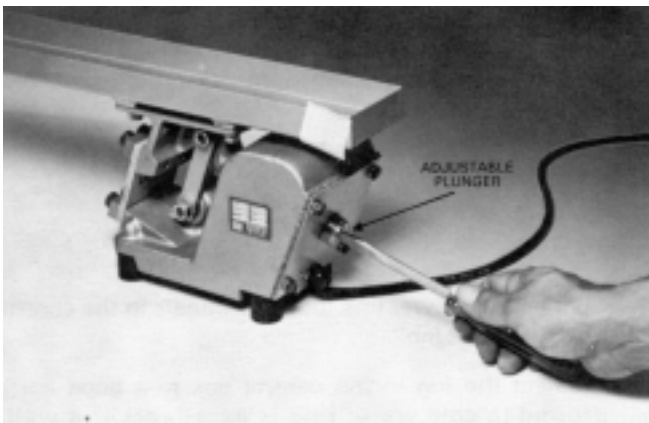

FIGURE 3
2. Insert a screw driver into the slot of the plunger (see Figure 3) and turn it clockwise until the plunger hits the armature.